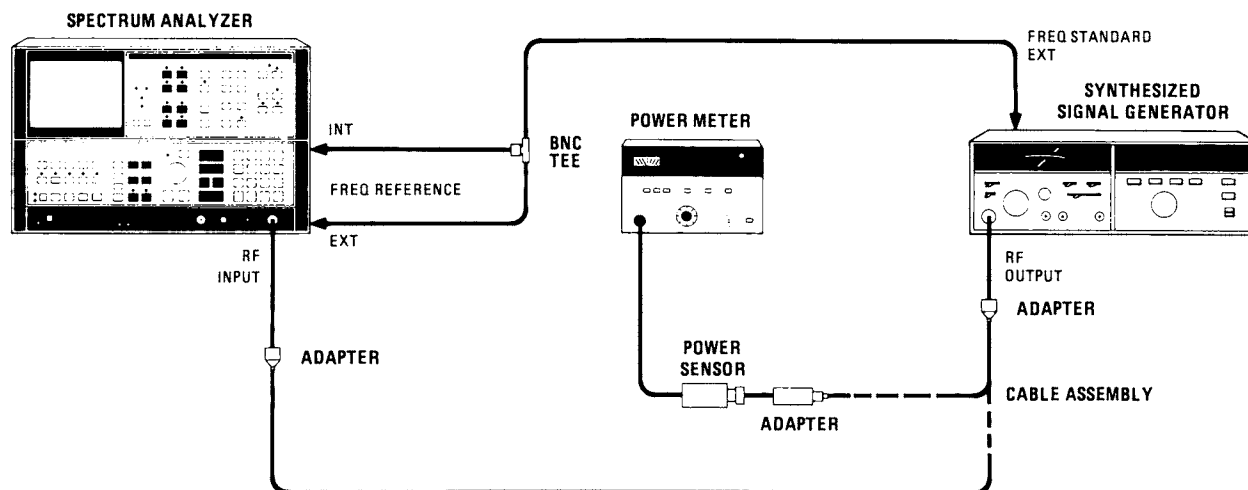

Figure 4-41. Gain Compression Test Setup
3. Connect equipment as shown in Figure 4-41 with output of synthesizer connected to power sensor. Power is measured at the end of the cable assembly, not at the synthesizer output connector. Adjust synthesizer output level for a power meter indication of $-20.00 \text{ dBm} \pm 0.05 \text{ dB}$.
4. Disconnect cable assembly from power sensor and connect free end to analyzer RF INPUT as indicated in Figure 4-41. Key in analyzer settings as follows: